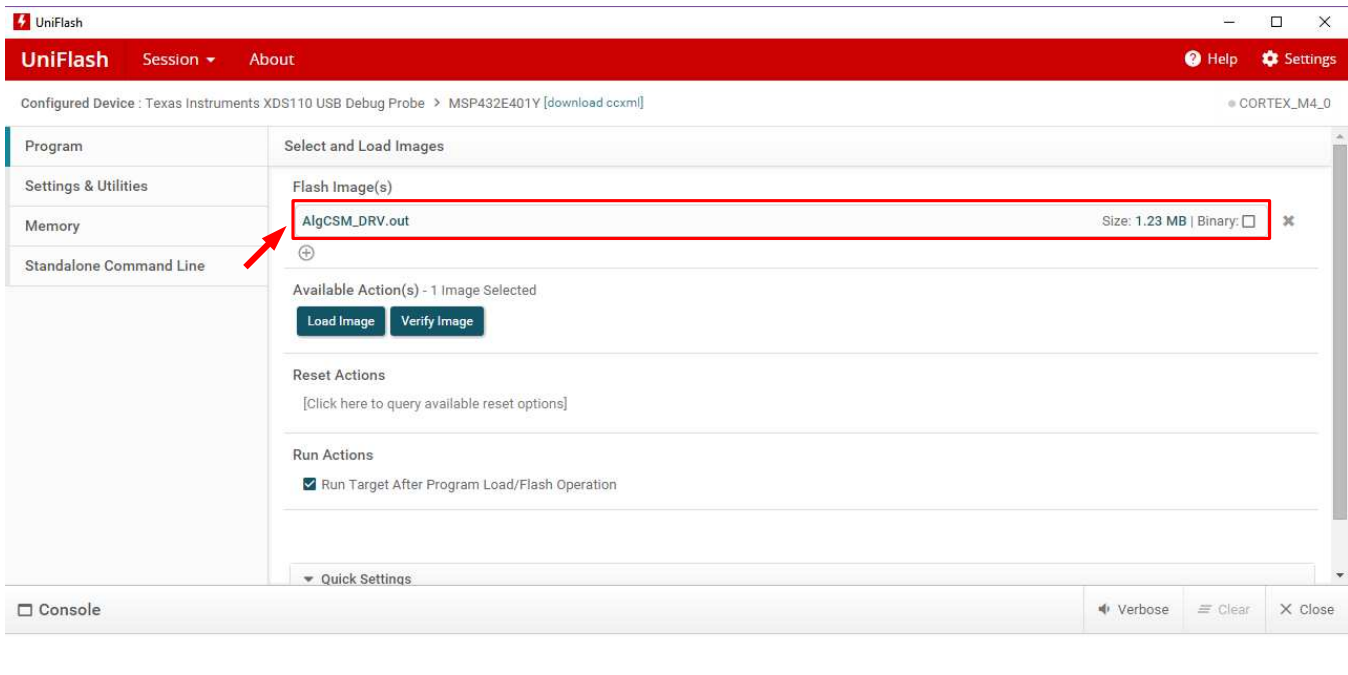

Figure 35. UniFlash Programming, Step 3
5. Click on the Flash Image file shown as the red box in Figure 35.